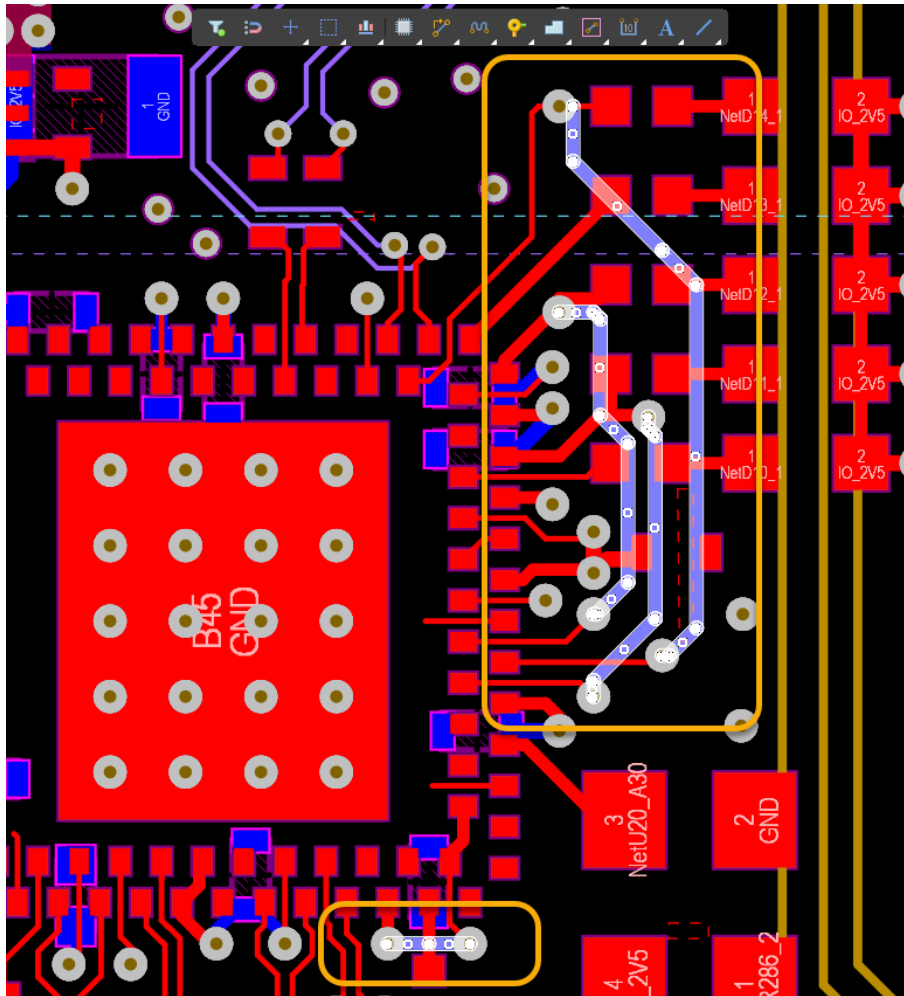

Figure 4. Add the four Tracks on Bottom Layer for Replication Command
- d) With the selection tool **Physical Connection Single Layer** still active and **Shift** key selected, add four signals on Bottom Layer to the existing selection. Use Figure 4 as reference for the four Signals to add.